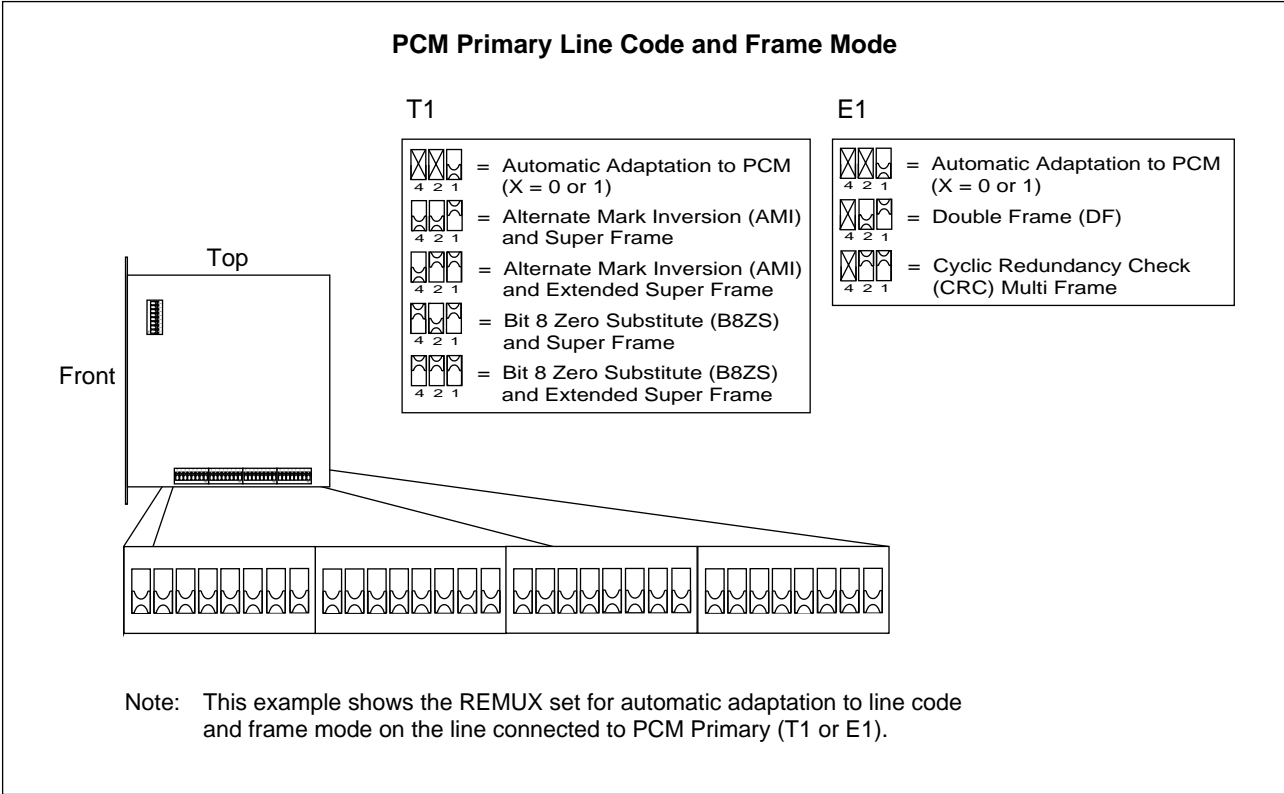

Figure 4-27. Setting for PCM Primary Line Code and Frame Mode
9. Set the PCM primary line code and frame mode, as shown in Figure 4-27 on page 4-45, in accordance with the *Configuration Data* in the *Site Installation Documentation*.